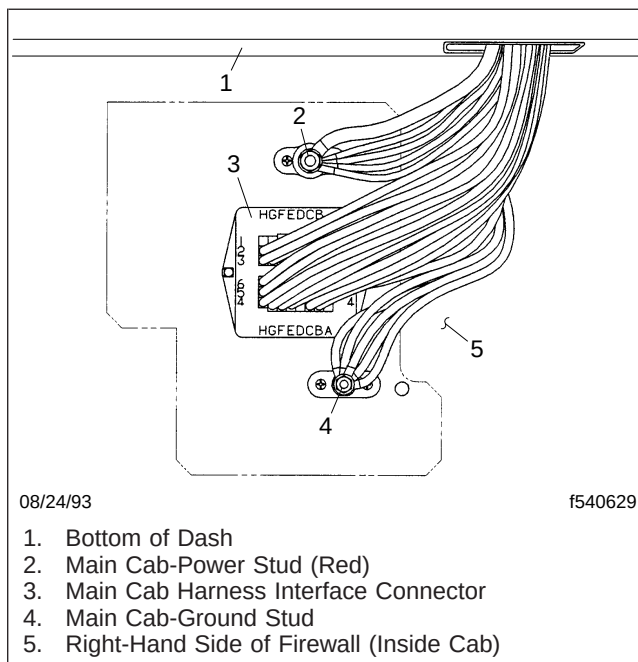

Fig. 6, FLC (LH DR) Main Cab Harness Connectors
- For an FLC (LH DR), see **Fig. 5** and **Fig. 6**.